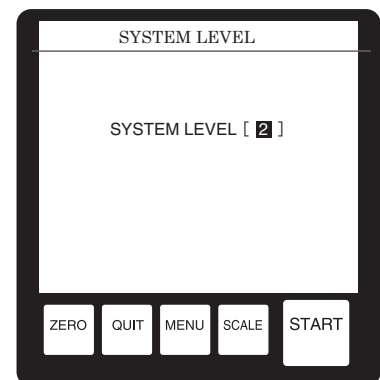

Fig.7-12
The SYSTEM LEVEL screen will appear on the display (Fig.7-12).
c) Using the numeric keypad, select a number between 0 and 3 (Fig.7-12).